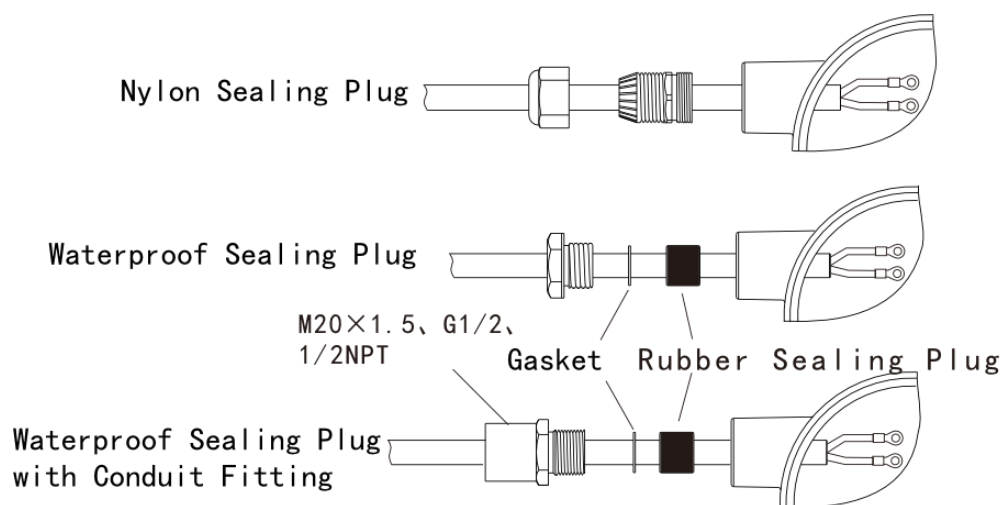

Figure 5-3 Install the Sealing Plug
- The cable sheath should enter the device housing completely and properly (see Figure 5-3).